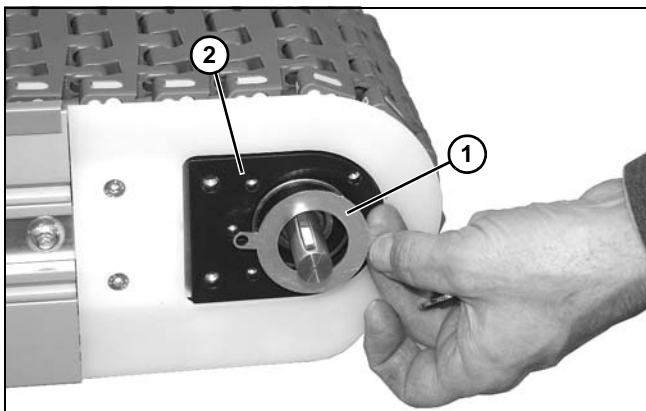

Figure 118
10. Remove bearing stop plate (**Figure 118, item 1**) from drive backing plate (**Figure 118, item 2**).